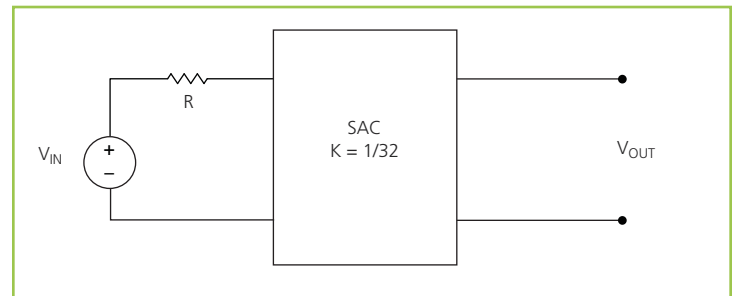

Figure 18 –  $K = 1/32$  Sine Amplitude Converter with series input resistor
interesting attributes. Assuming that  $R_{OUT} = 0 \Omega$  and  $I_Q = 0 A$ , Eq. (3) now becomes Eq. (1) and is essentially load independent, resistor R is now placed in series with  $V_{IN}$  as shown in Figure 18.
Assuming that  $R = 1 \Omega$ , the effective R as seen from the secondary side is  $0.98 \text{ m}\Omega$ , with  $K = 1/32$  as shown in Figure 18.